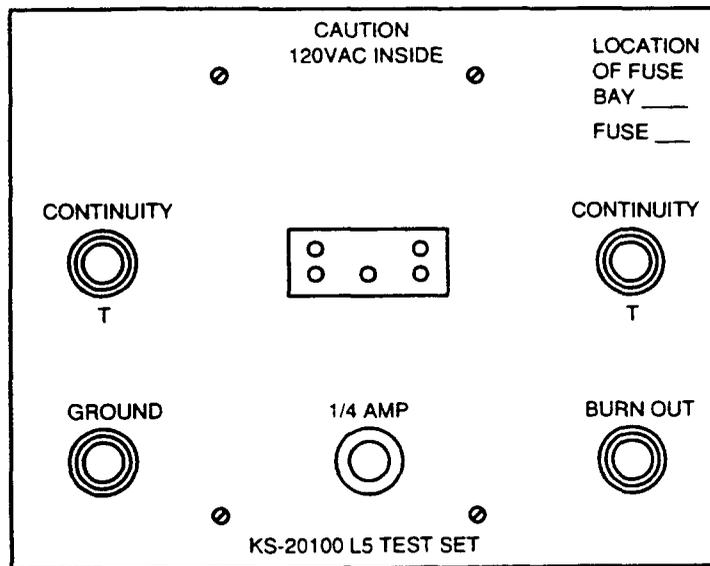
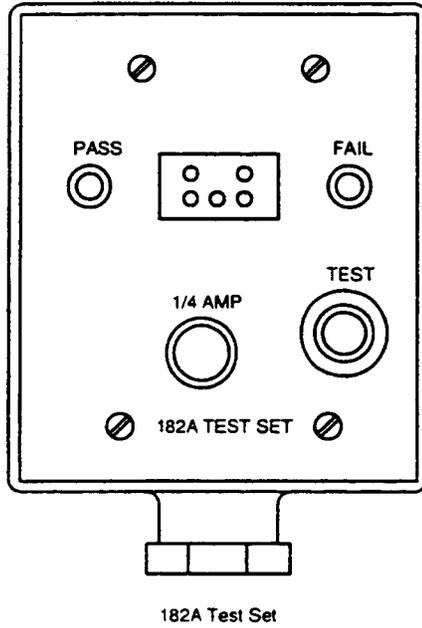

Figure 18. KS-20100, L5 Test Set
Figure 19. 182A Test Set
6.04 Before installing the 3-, 4-, or 5-type protector units onto the connectors, each unit may be tested. The KS-20100, L5 test set (Figure 18) is used to test for the presence or absence of tip and ring continuity and ground and also provides a burnout feature to clear protector units shorted by carbon or dust particles. The 182A test set (Figure 19) is used to test the minibridge lifter protector units for tip and ring continuity and for shorted protector blocks. It also tests the function of the 410A switch contained in the protector unit. For test procedures, see AT&T 201-208-100.